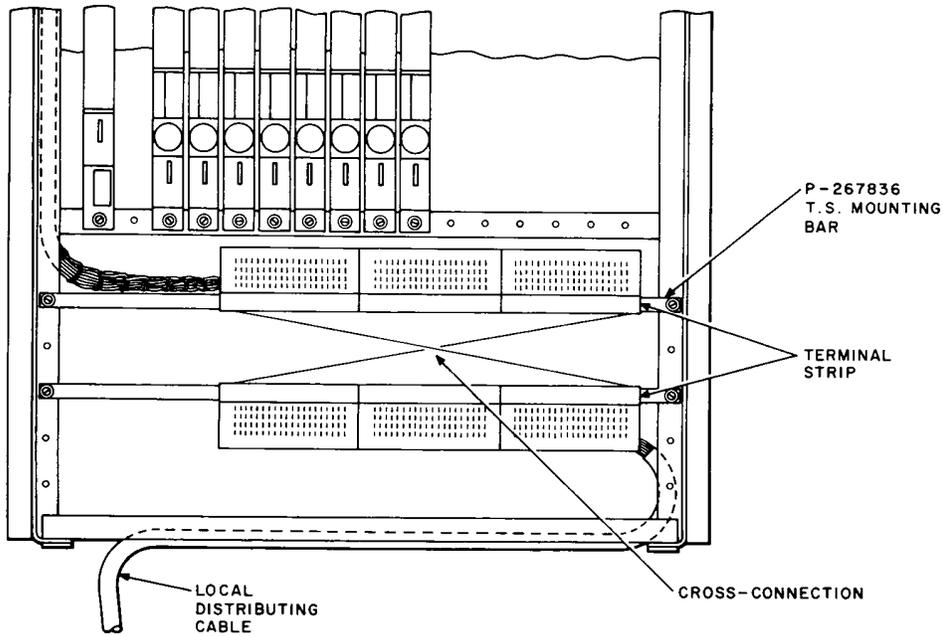

Fig. 11—Arrangement for Terminating Local Distributing Cables When No Cross-Connecting Terminal is Provided—Rear View
3.23 *Cables and/or Wiring* carrying station lines, trunks, battery and ground, and generator to the PBX may be *terminated* in a *cross-connecting terminal* on *binding post chambers* or *connecting blocks* and *adapters* (see Fig. 10) or in the bottom rear of the PBX on a separate group of BB4B or 217B (Manufacture Discontinued) terminal strips. See Fig. 11 and 12.